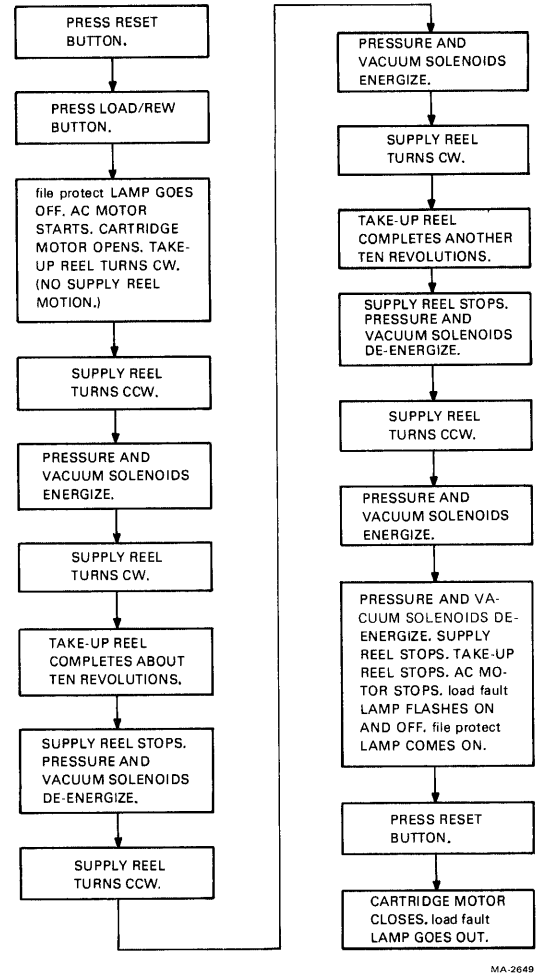

Figure 2-16 Inhibited Autoload Sequence
**2.5.1.3 Inhibited Autoload Sequence** – Install a write-enable ring on a large 267 mm (10-1/2 in) reel of tape. Tape the leader to prevent magnetic tape from coming off the reel. Mount the reel onto the supply hub. Close the transport front door so the interlock can enable the autoload sequence. If it is desired to leave the door open, override the interlock by pulling it out. Follow the instructions and check for the events specified in Figure 2-16.